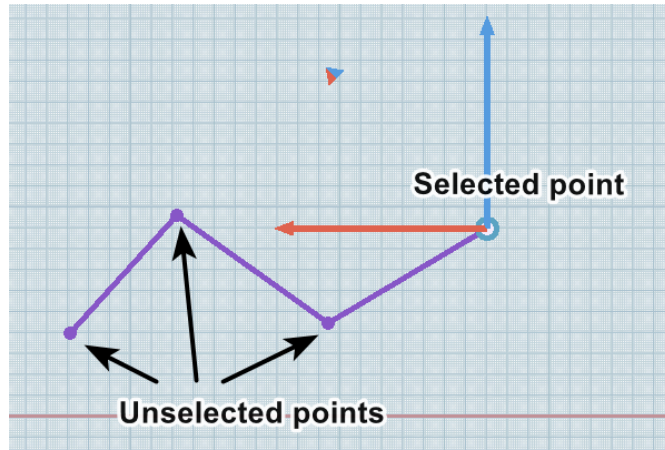

Figure 79 – GIZMO for a selected point
For the selected point (Figure 79) gizmos are displayed, which consists from:
Each new point is created selected, so the controller, GIZMO manipulators (Figure 79) and the corresponding set of buttons are displayed for it in the context menu (Figure 80).
- 7) If necessary, move the created point by using Gizmo (Figure 79) or by dragging the point itself.
- move the selected points with the pointer behind the point or behind the Gizmo points (Figure 79);